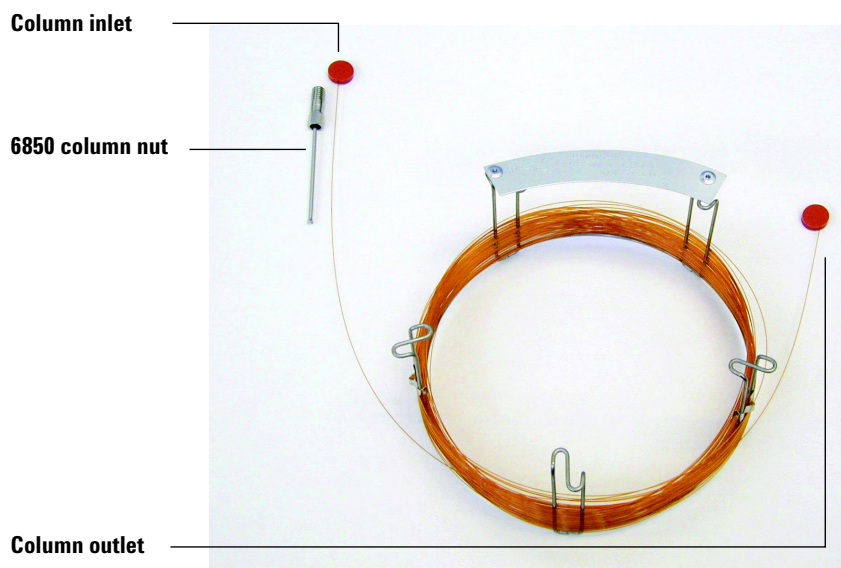

Figure 2 Column
- 1 Lay the column (19091S-433E found in the GC ship kit) on a clean surface with the column label facing the user in the 12 o'clock position. Note that the inlet and outlet ends of the column are oriented the same as when a GC detector is used and the column outlet is positioned at the back (closer to the fan) of the column cage holder. See Figure 2.